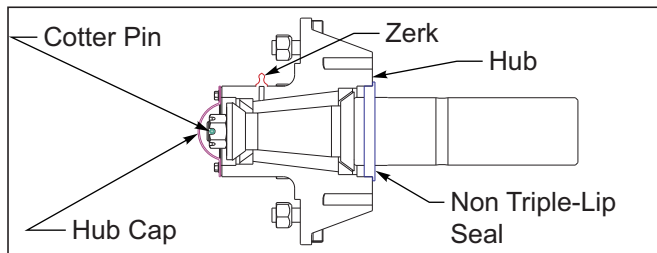

Figure 4-13: Non-Triple Lip Seal
10. Install a new cotter pin, dust cap and gasket. Do not over-tighten the dust cap screws causing the gasket to come out See Figures 4-13.